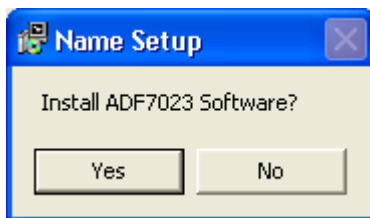

Figure 2
3. Click on "Yes" to install the software (Figure 2).